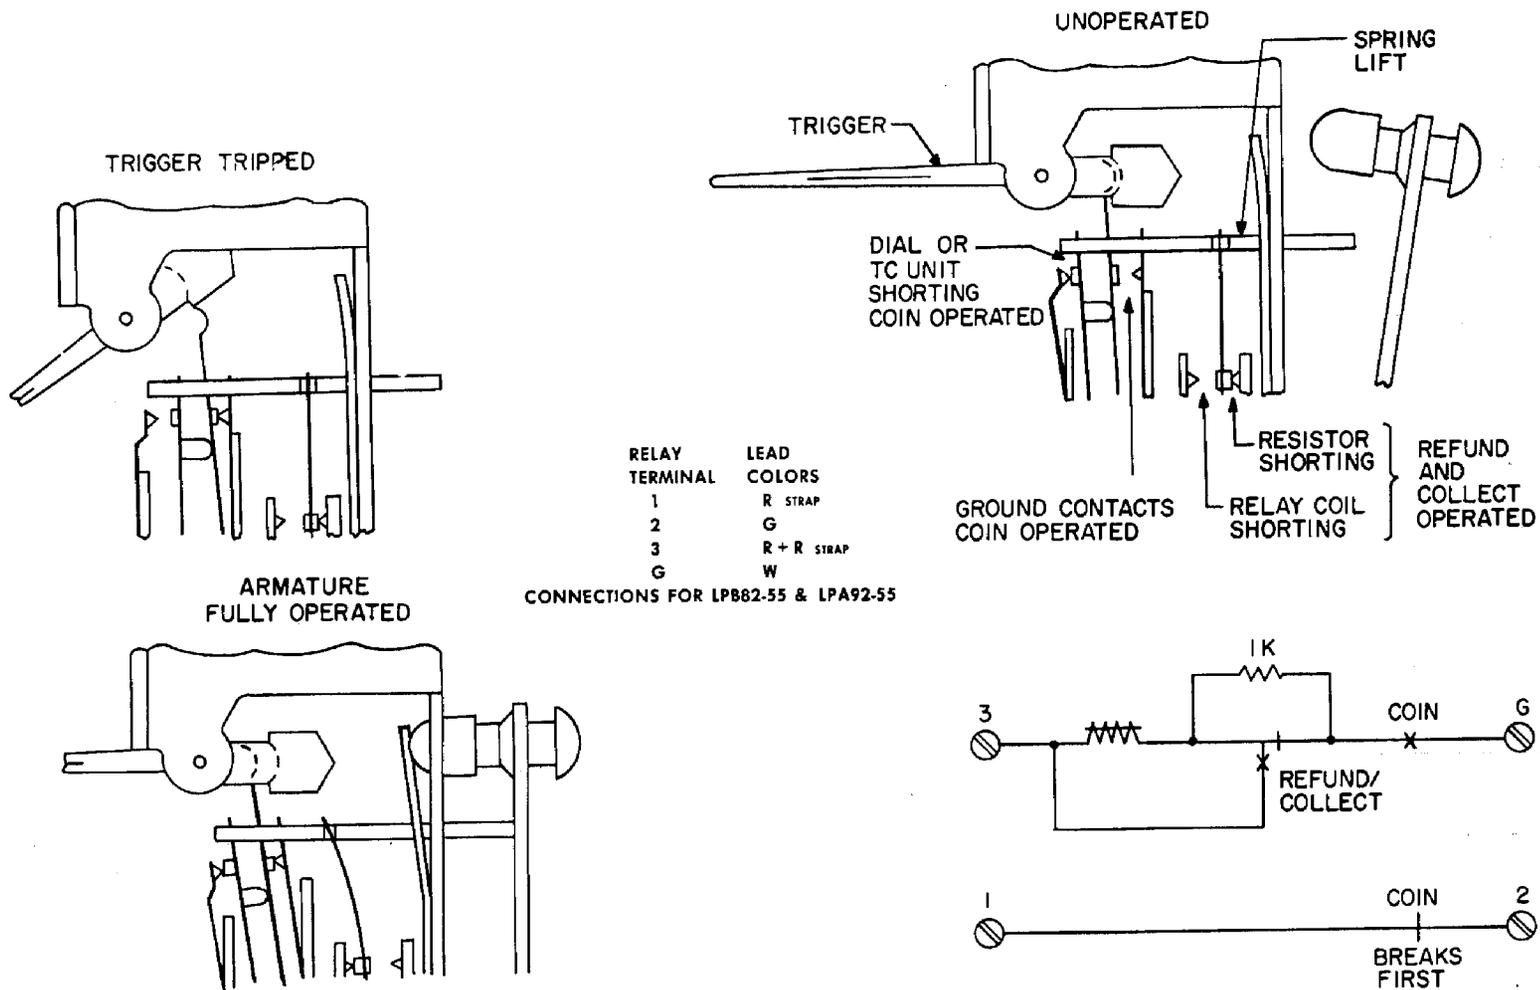

Figure 2. Coin Relay Contact Spring Assembly and Schematic.
- (a) Trip the coin trigger and make visual inspection of the contact springs. The ground contacts (see Figure 2) should make firmly. Verify by feel, using an orange stick.
- (1) Make a visual check of the dial shorting contacts. With the coin trigger unoperated, the contacts should be held closed, and the rear spring should exhibit perceptible follow beyond its stop spring, as shown in Figure 2. With the trigger tripped, the buffer on the front spring is free to move forward, and the contacts should be open (rest position).